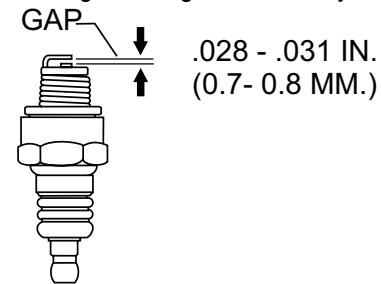

Figure 34. Spark Plug Gap
1. Remove and clean spark plug (Figure 34) with a wire brush if it is to be reused. Discard spark plug if the insulator is cracked or chipped.